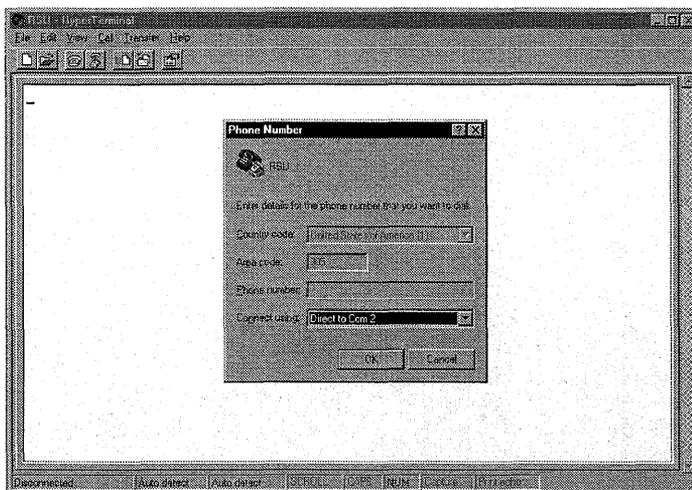

Figure 23
5. A “Phone Number” dialog box will appear. Select an available COM port. This must be the port where the File Transfer cable is attached. Click OK. (See figure 23 below).